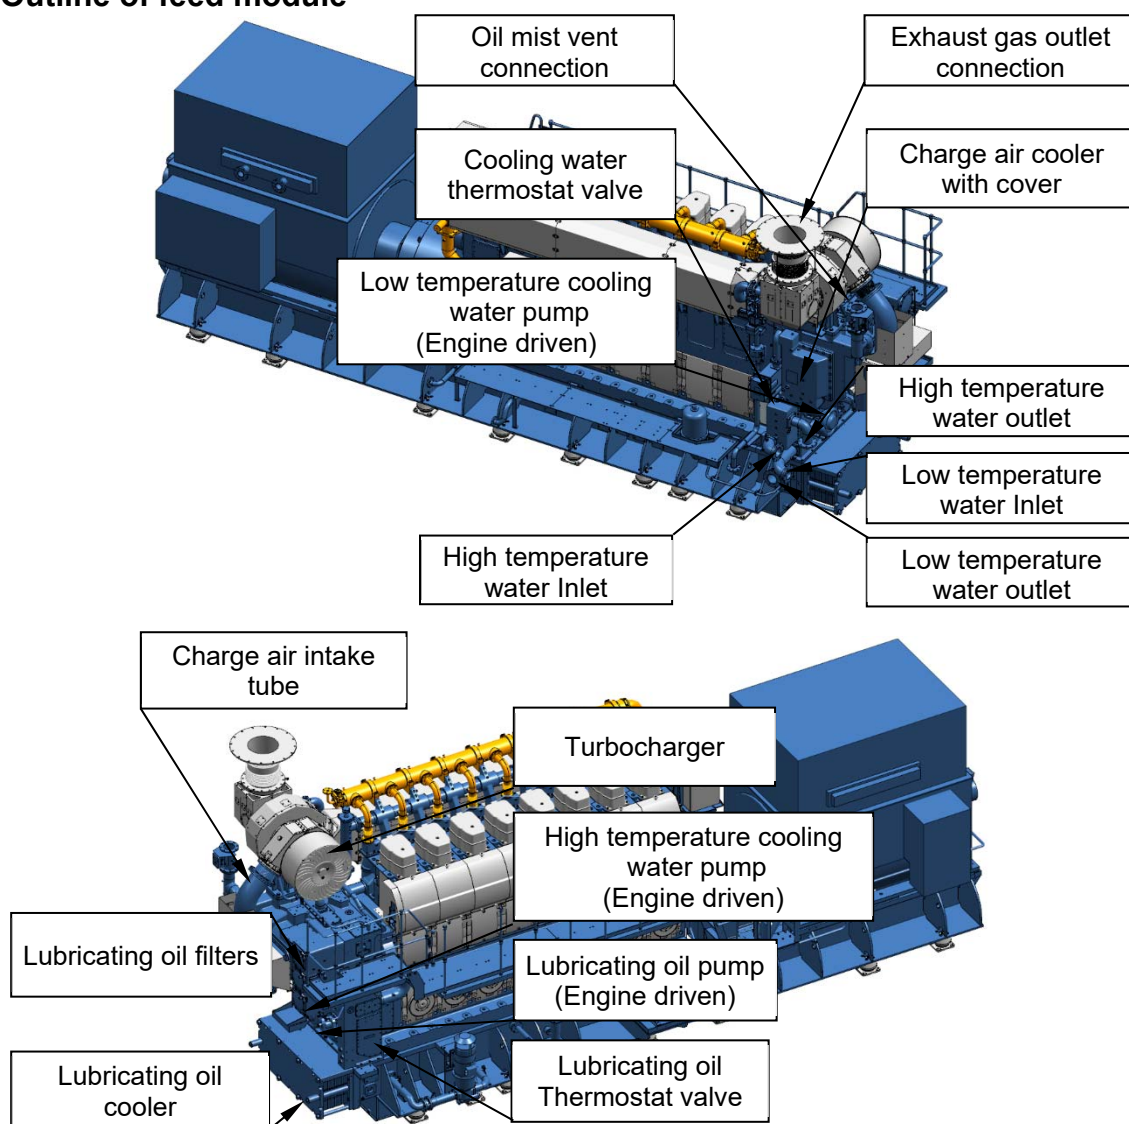

Figure 2.4 Outline of feed module
- ✓ All the components of the system, for example, pumps, valves, filters and coolers are mounted on feed block without any pipe connection, which provides direct accessibility with fewer parts for easy maintenance as shown below Figure 2.4